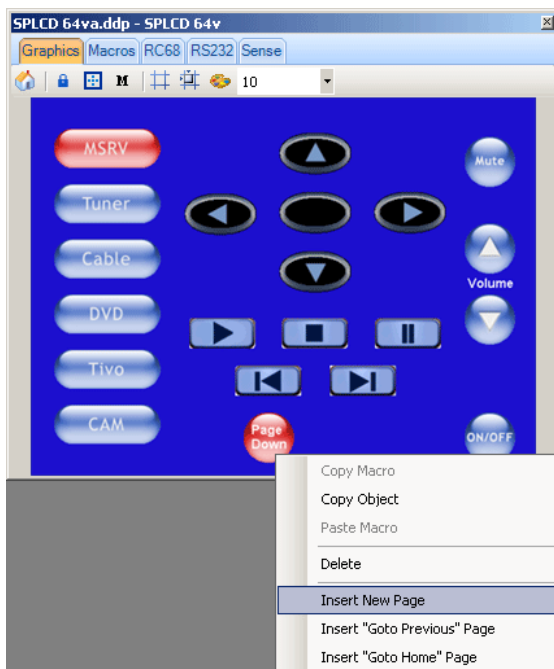

Figure 25 – Insert New Page
3. Right-click on the button from **Step 2** and select **Insert New Page** from the **pop-up**. (**Figure 25**) While programming in **Universal Dragon**, once configured as a '**Go To**' **Button**, the button can double clicked to navigate as configured, i.e. **Page Down**.